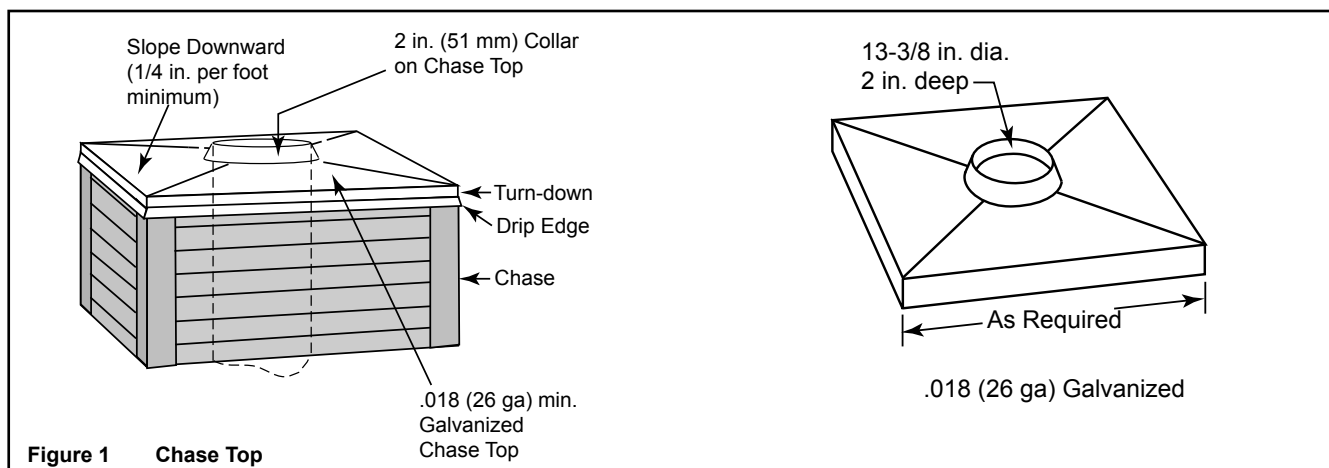

Figure 1 Chase Top
- Fabricate a chase top as shown in Figure 1.
- The uppermost chimney section must extend 4 in. (102) above the top of the chase top collar to allow for the installation of the TR11 termination cap and the storm collar.